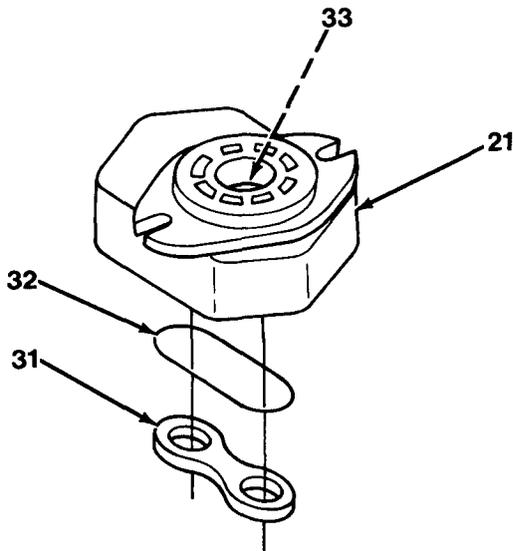

Figure 13-6
15. Remove loading seal (32) from wear plate (31, Figure 13-6).
16. Remove shaft seal (33) from front body (21).